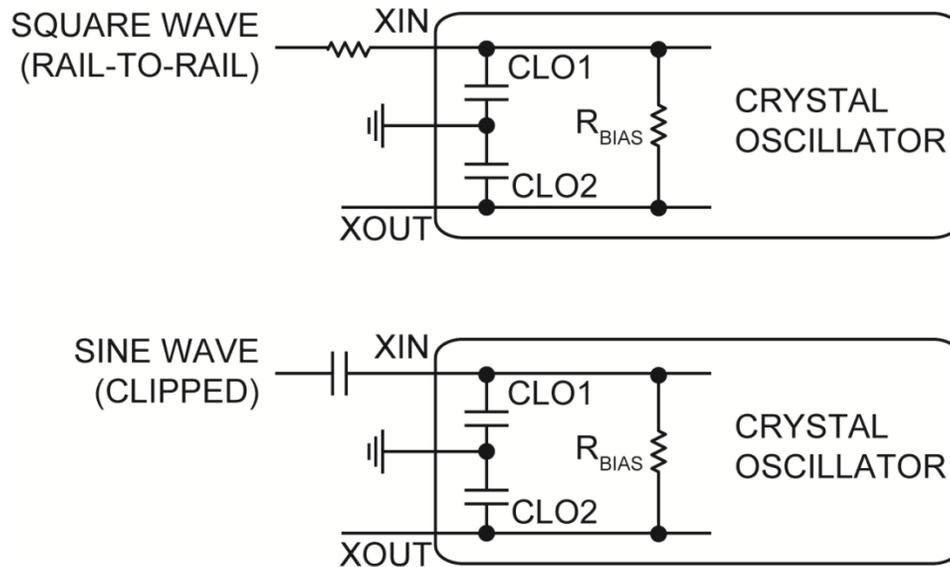

Figure 6. Driving XIN with External Reference Clock
- The usual signal at XIN is a sine wave with a peak-to-peak signal swing smaller than VDD. When applying a square wave to XIN, higher frequency harmonics will couple through CLO1 (Figure 6) to the ground rail and can interfere with other parts of the circuit. When issues such as deterministic jitter or spurs in the phase noise arise, try and slow down the edges on the reference clock square wave with another series resistor. A value of 100Ω is a good first try.